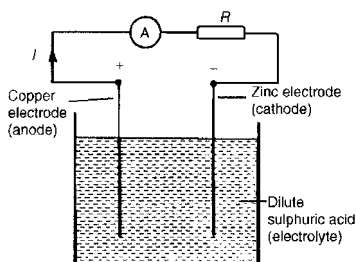

Figure 4.1
A **simple cell** comprises two dissimilar conductors (electrodes) in an electrolyte. Such a cell is shown in Fig. 4.1, comprising copper and zinc electrodes. An electric current is found to flow between the electrodes. Other possible electrode pairs exist, including zinc–lead and zinc–iron. The electrode potential (i.e. the p.d. measured between the electrodes) varies for each pair of metals. By knowing the e.m.f. of each metal with respect to some standard electrode, the e.m.f. of any pair of metals may be determined. The standard used is the hydrogen electrode. The **electrochemical series** is a way of listing elements in order of electrical potential, and Table 4.1 shows a number of elements in such a series.
If the simple cell shown in Fig. 4.1 is left connected for some time, the current I decreases fairly rapidly. This is because of the formation of a film of hydrogen bubbles on the copper anode. This effect is known as the polarisation of the cell. The hydrogen prevents full contact between the copper electrode and the electrolyte and this increases the internal resistance of the cell. The effect can be overcome by using a chemical depolarising agent or depolariser, such as potassium dichromate which removes the hydrogen bubbles as they form. This allows the cell to deliver a steady current.
- (i) The metal that is higher in the series acts as the negative electrode, and vice-versa. For example, the zinc electrode in the cell shown in Fig. 4.1 is negative and the copper electrode is positive.